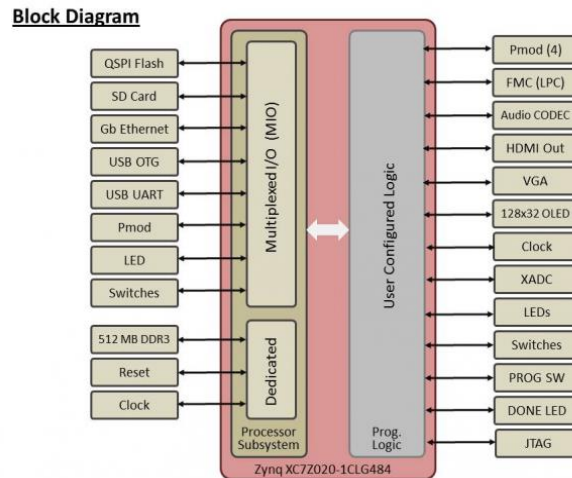

Figure 7: The Avnet ZedBoard BlockDiagram
The ZedBoard is an evaluation and development board based on the Xilinx Zynq-7000 Extensible Processing Platform. Combining a dual Corex-A9 Processing System (PS) with 85,000 Series-7 Programmable Logic (PL) cells, the Zynq-7000 EPP can be targeted for broad use in many applications as seen in Figure 7.